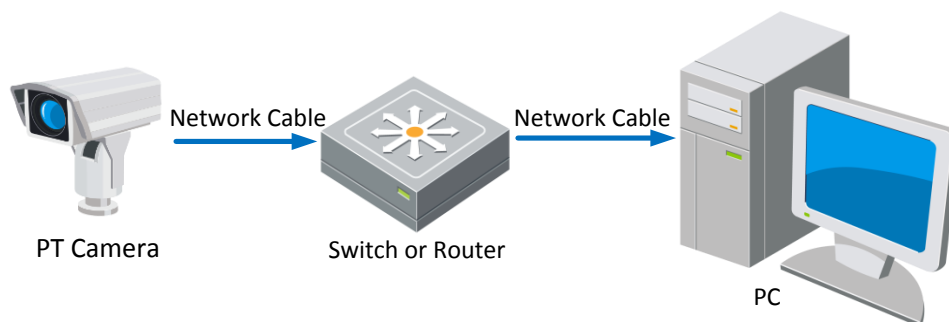

Figure 2-2 Connecting via a Switch or a Router
- Refer to the Figure 2-2 to set the network positioning system over the LAN via a switch or a router.